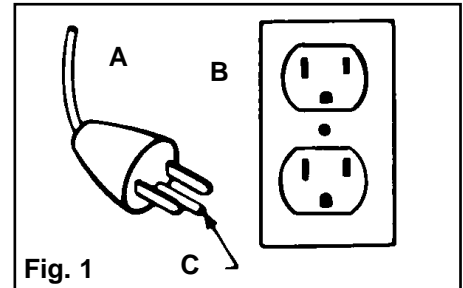
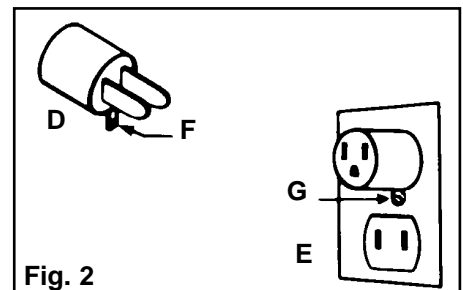

Fig. 1
Fig. 2
Improper connection of the equipment-grounding conductor can result in the risk of electric shock. Check with a qualified electrician or service person if you are in doubt as to whether the outlet is properly grounded. Do not modify the plug provided with the appliance - if it will not fit the outlet, have a proper outlet installed by a qualified electrician. This appliance is for use on a nominal 120 volt circuit and has a grounding plug that looks like the plug (A) illustrated in sketch (Fig. 1).
A temporary adapter (D) may be used to connect this plug to a 2-pole receptacle (E) if a properly grounded outlet is not available (Fig. 2). The temporary adapter should be used only until a properly grounded outlet (B) can be installed by a qualified electrician (Fig. 1). The green colored rigid ear, lug, or the like (F) extending from the adapter must be connected to a permanent ground (G) such as a properly grounded outlet box cover (Fig. 2). Whenever the adapter is used, it must be held in place by a metal screw. NOTE: In Canada, the use of a temporary adapter is not permitted by the Canadian Electrical Code.